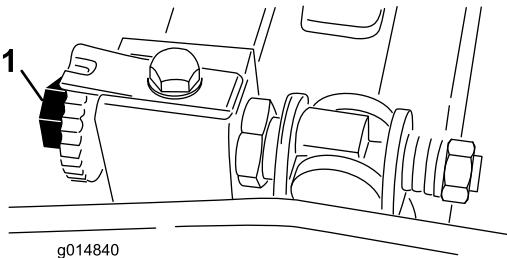

Figure 49
2. Ensure that the reel contact is removed by turning the bedbar adjusting screws counterclockwise (Figure 49).
to the bedknife, which results in a slight drag when paper is pulled (Figure 49).